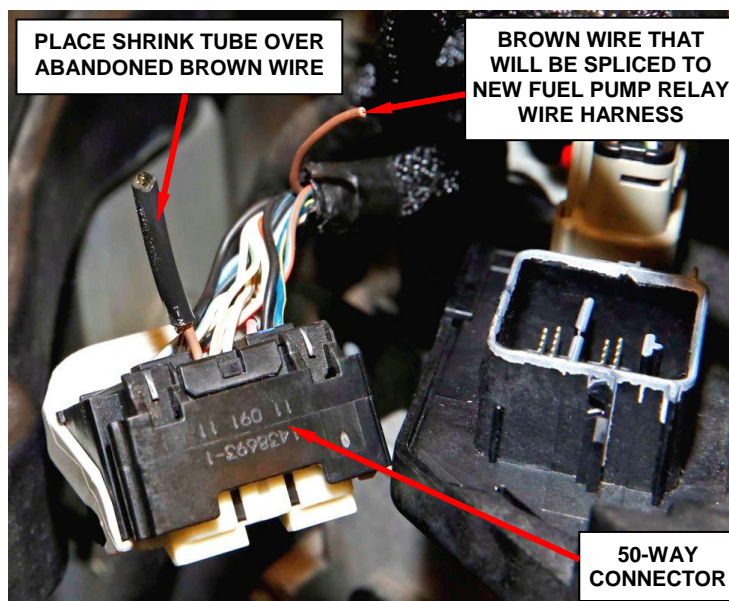

Figure 8 – Insulate Brown Abandoned Wire
10. Install shrink tube to the connector side brown wire to insulate the wire end. This wire will no longer be used (Figure 8).